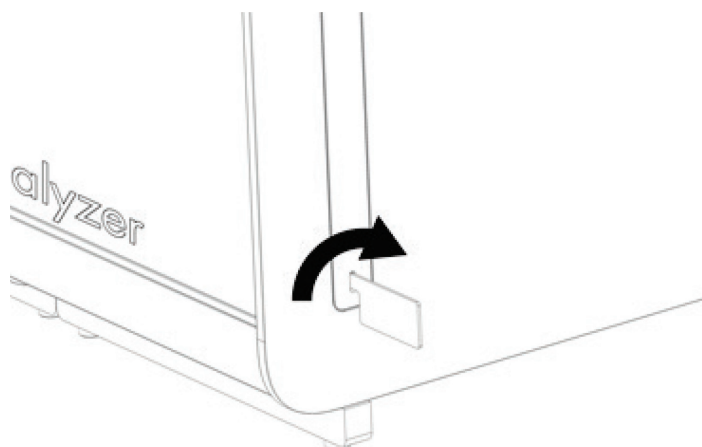

Figure 13. Removing protective covers.
- Remove the protective covers from the side of the Analytical Module, which is where the additional Analytical Module will be attached (Figure 13).